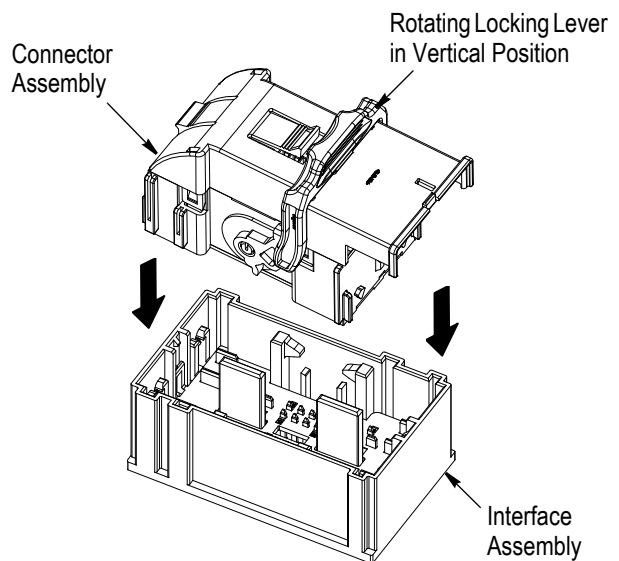

Figure 2
1. Make sure that the rotating locking lever of the connector assembly is in the vertical position. See Figure 2.
2. Align the keying feature of the connector assembly with the mating (mutually polarized) interface assembly of the electronic module box. See Figure 2.
3. Pull the connector assembly straight out from the interface assembly. Refer to Figure 2.